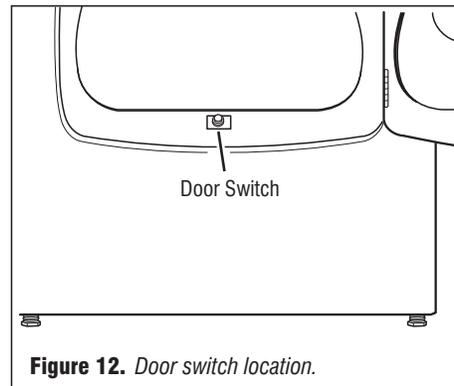

Figure 12. Door switch location.
- Check that the wires between the door switch and machine control electronics are connected. See figure 12 for switch location and see Removing the Front Panel/Drum Assembly, page 9.